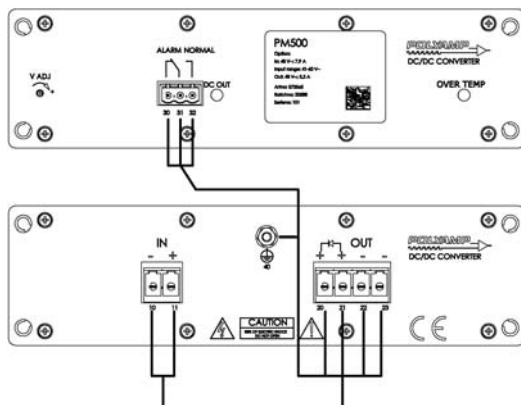

Figure 9. Input to output, case and alarm isolation voltage test
4. Connect your isolation tester between input and output. See *Figure 9*.
5. Raise the voltage of the isolation tester from 0 to 2.5kVa.c. The voltage should not be applied for more than one (1) minute or the Y-capacitors might be damaged.